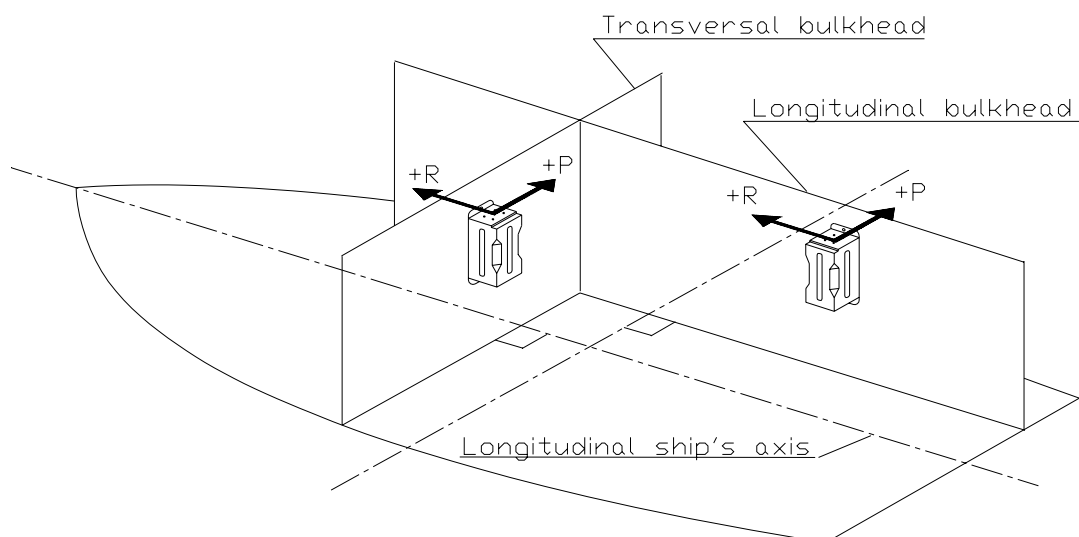

Figure 5 Recommended orientation of the MRU mounting bracket
or transversal bulkheads of the ship with the opening pointing downward, as shown in Figure 5. This will ensure easy and accurate orientation of the MRU according to the longitudinal axis. Reserve sufficient space below the bracket to allow insertion of the MRU from below.
- Insert the MRU into the bracket. In order to achieve the orientation as shown in Figure 5, the MRU must be rotated in the bracket. Apply Loctite 242 glue or equivalent on the four MRU screws (3).